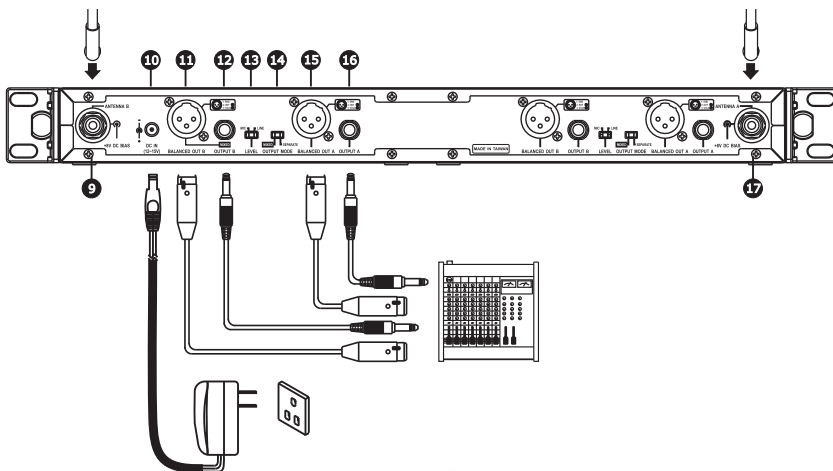

Fig. 2
1. Connect an antenna to each of the antenna connectors 9 17 on the rear panel. Fig. 2.
2. Connect the power supply to the receiver DC input 10 and plug into an AC power source. Fig. 2.